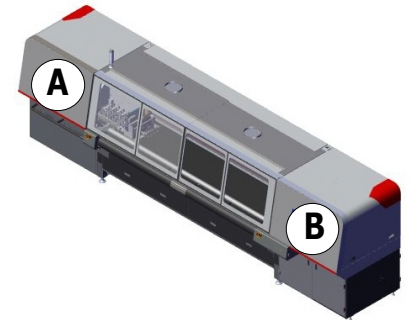

Figure 4-1 Printer Front View
2. Open the carriage (location A) and operator-end (location B) compartment doors. See Figure 4-1.